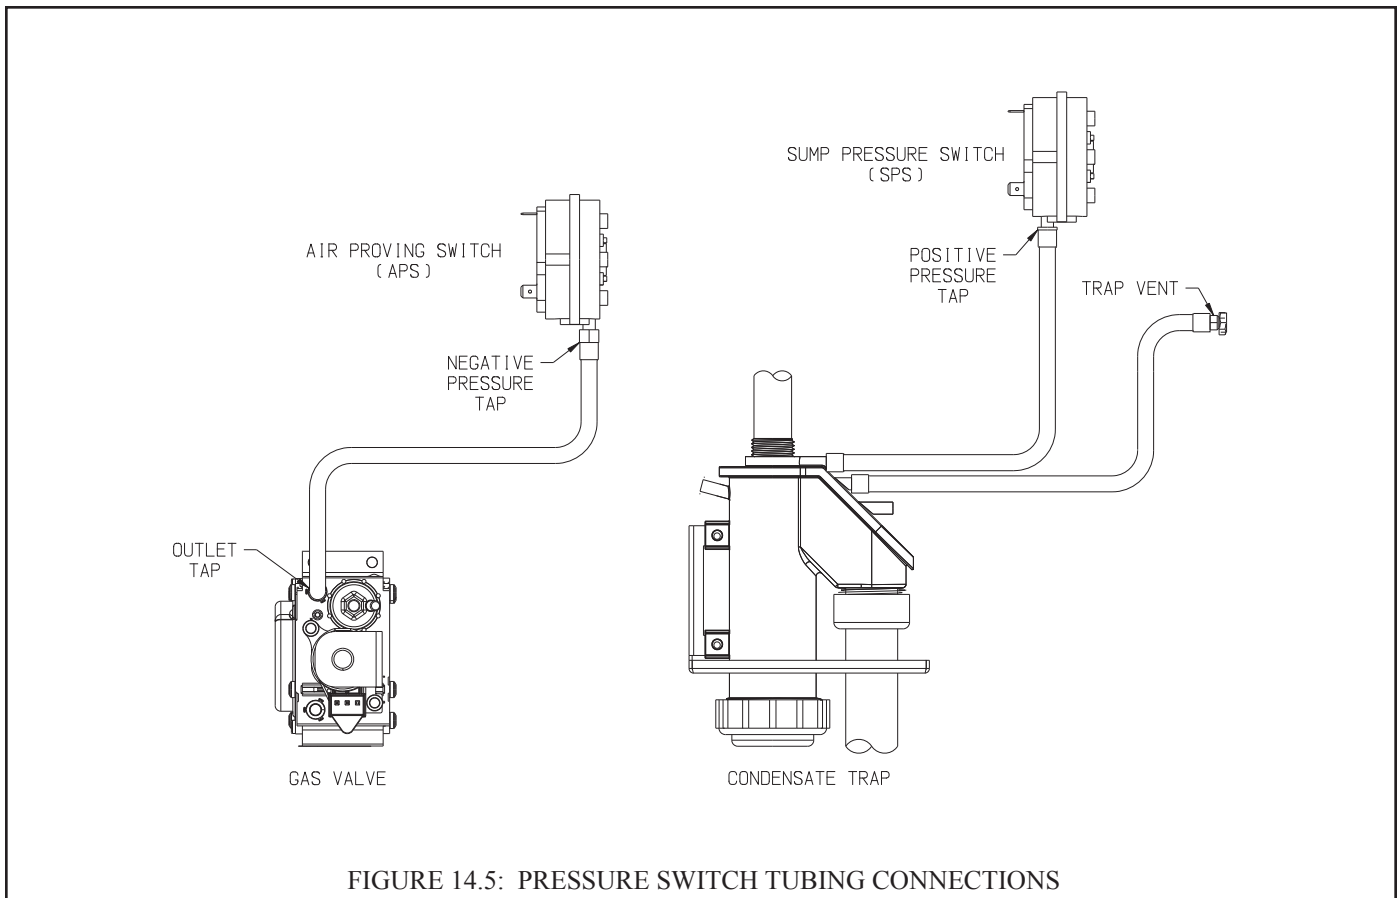

FIGURE 14.5: PRESSURE SWITCH TUBING CONNECTIONS
**Sump Pressure Switch (SPS)** – This pressure switch is normally closed and monitors the difference in pressures between the boiler cabinet and the sump (the sump pressure is very close to the pressure at the boiler’s vent connection). This switch is piped as shown in Figure 14.5. The SPS is calibrated to open at 3.15 +/- 0.10 inches water column. A blockage in vent system that causes the vent pressure to exceed the SPS set point will cause the burner to shut down and recycle. Likewise, a blockage in the air intake system that causes the vacuum in the cabinet to fall below -3.15 inches will also cause the boiler to shut down and recycle. If this switch opens, look for a blockage in the vent or air intake system.
**Air Proving Switch (APS)** – This pressure switch is normally open and is connected to the outlet tapping on the gas valve as shown in Figure 14.5. During pre-purge, when the gas valve is closed, the IAS is monitoring the pressure drop across gas-air mixer (venturi for the 80-120, swirl plate on the 150 and 180). Greater air flow through the mixer causes this pressure reading to increase. The APS is calibrated to close when this pressure rises to 1.05 +/- 0.05" wc, which is a pressure at pre-purge corresponding to adequate air flow. After the gas valve opens, this pressure will drop very close to zero, regardless of the actual air flow rate through the boiler. For this reason, the APS is ignored after pre-purge. In the event that the burner fires continuously for one hour, the boiler control will recycle the burner to verify that the APS still closes and that adequate airflow is still present. If the APS opens, look for the following: